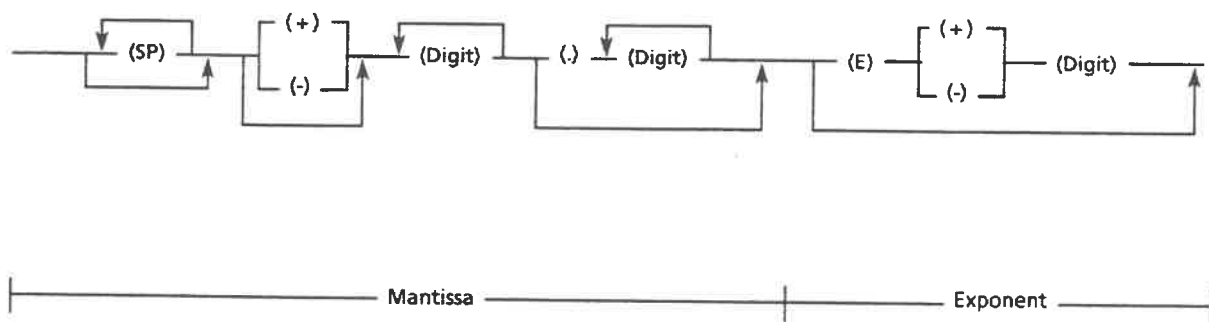

Fig. 3-25 Syntax diagram of a message sent by the FMA in talker mode
The syntax of the messages sent by the FMA in talker mode is shown in Fig. 3-25. The syntax is similar to that of the messages received by the analyzer in listener mode.
- The syntax of the numeric data section is described in Fig. 3-25. The exact form of the numbers of each message is described in Tables 3-7, 3-8 and 3-9.